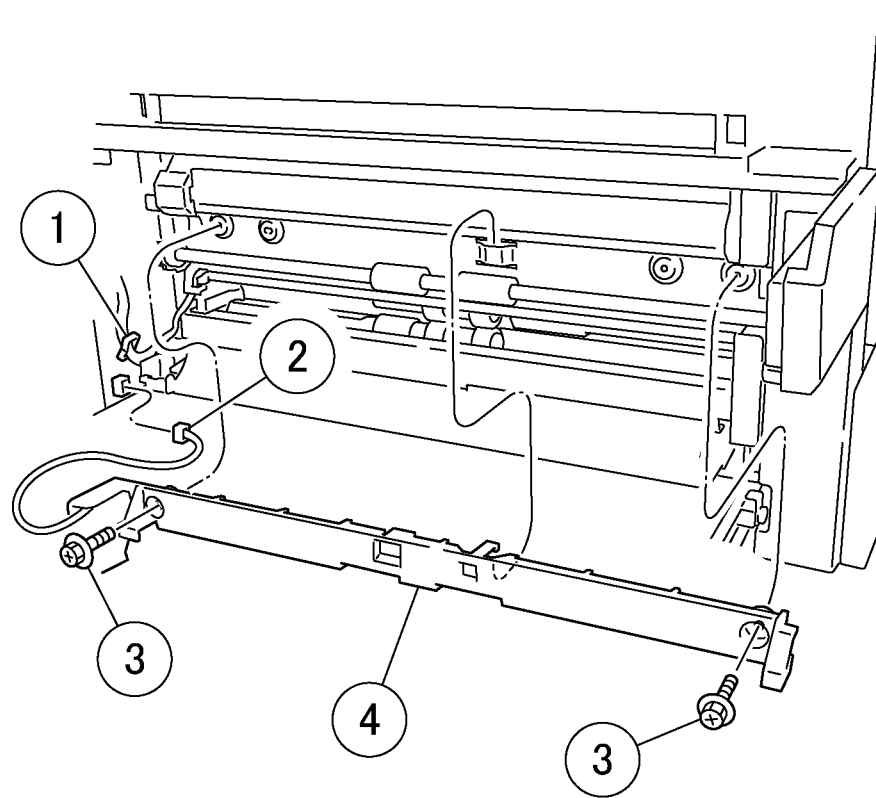

Figure 4 Removing the chute (j0tp40202)
7. Remove the Chute. (Figure 4)